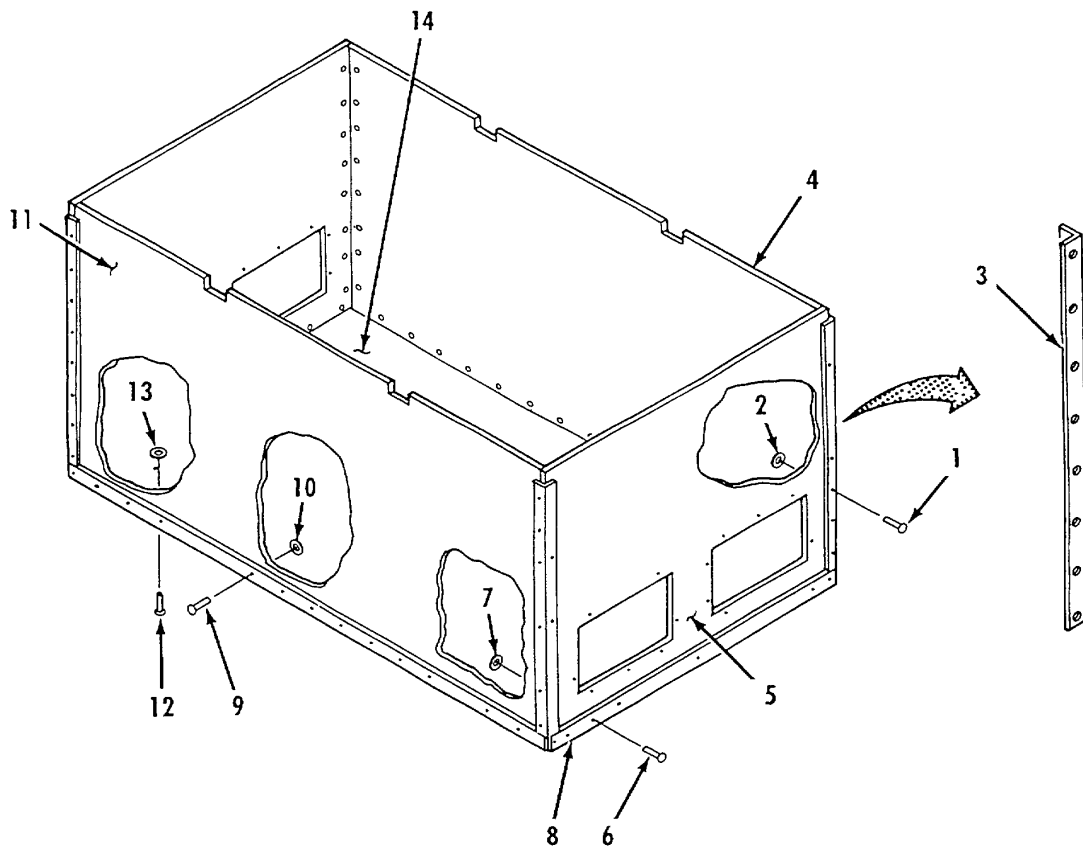

Figure 4-29. Storage Box (Panels and Frame) Repair.
Refer to figure 4-29.
- d. Assembly. Refer to figure 4-29.